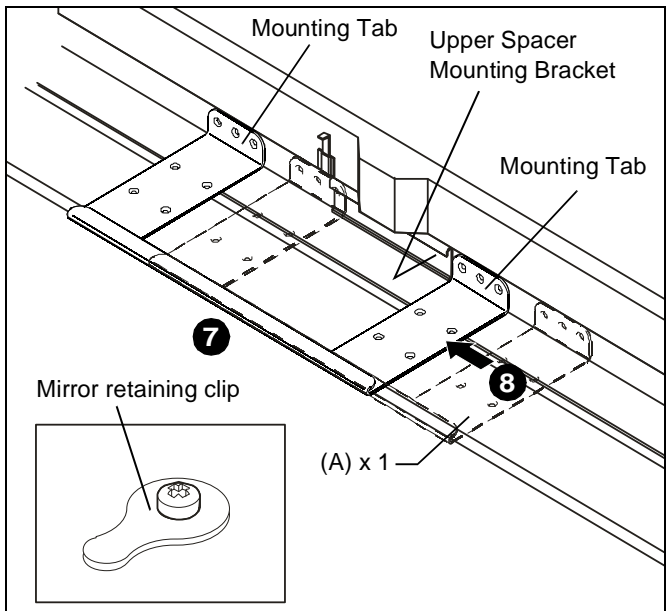

Figure 4
7. Orient retro bracket (A) as shown in figure below. (See Figure 4)
8. Place retro bracket (A) onto frame and align so that bottom and front surfaces of bracket are flush against frame, and mounting tab on retro bracket (A) rests against upper spacer mounting bracket. (See Figure 4)